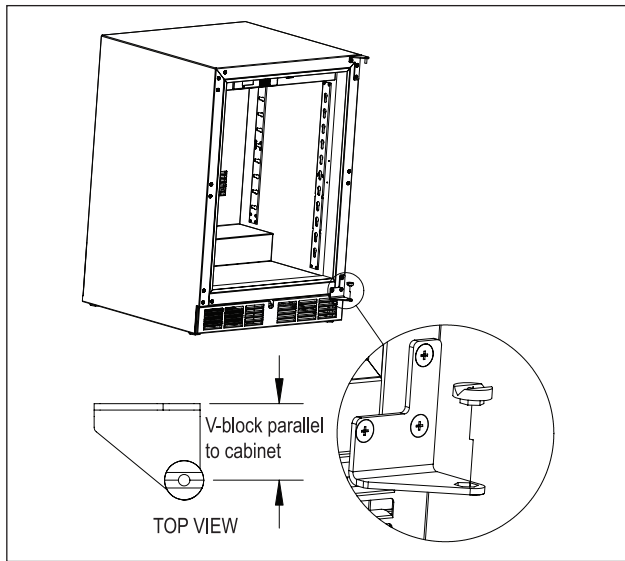

Figure 15. Installing V-Block
12). Place the lower V-block into the lower cabinet hinge with the notch parallel to the cabinet (Fig. 15).